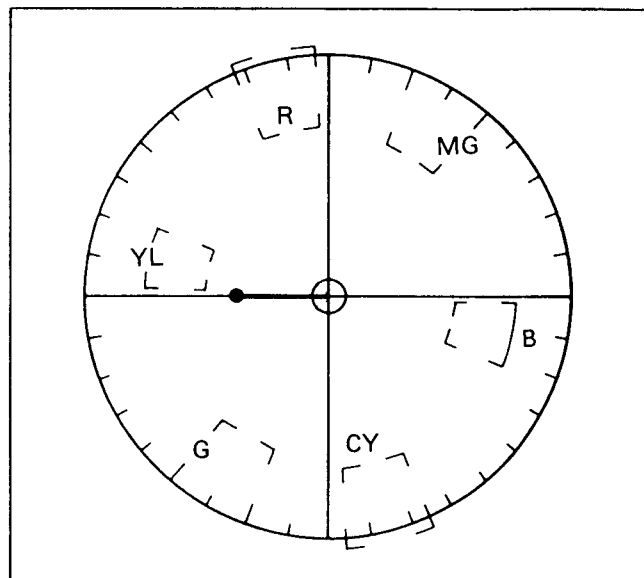

Fig. C31
- (8) Adjust the VR523 and VR527 so that colour vectors collect at center.
- (9) Next, remove the color temperature conversion filter with fixture from the lens. If the color vectors do not collect at center, adjust the AWT offset adjustment controls (VR525, VR526) so that color vectors come to center as shown in Fig. C31.
- (10) Repeat steps (6)–(9).